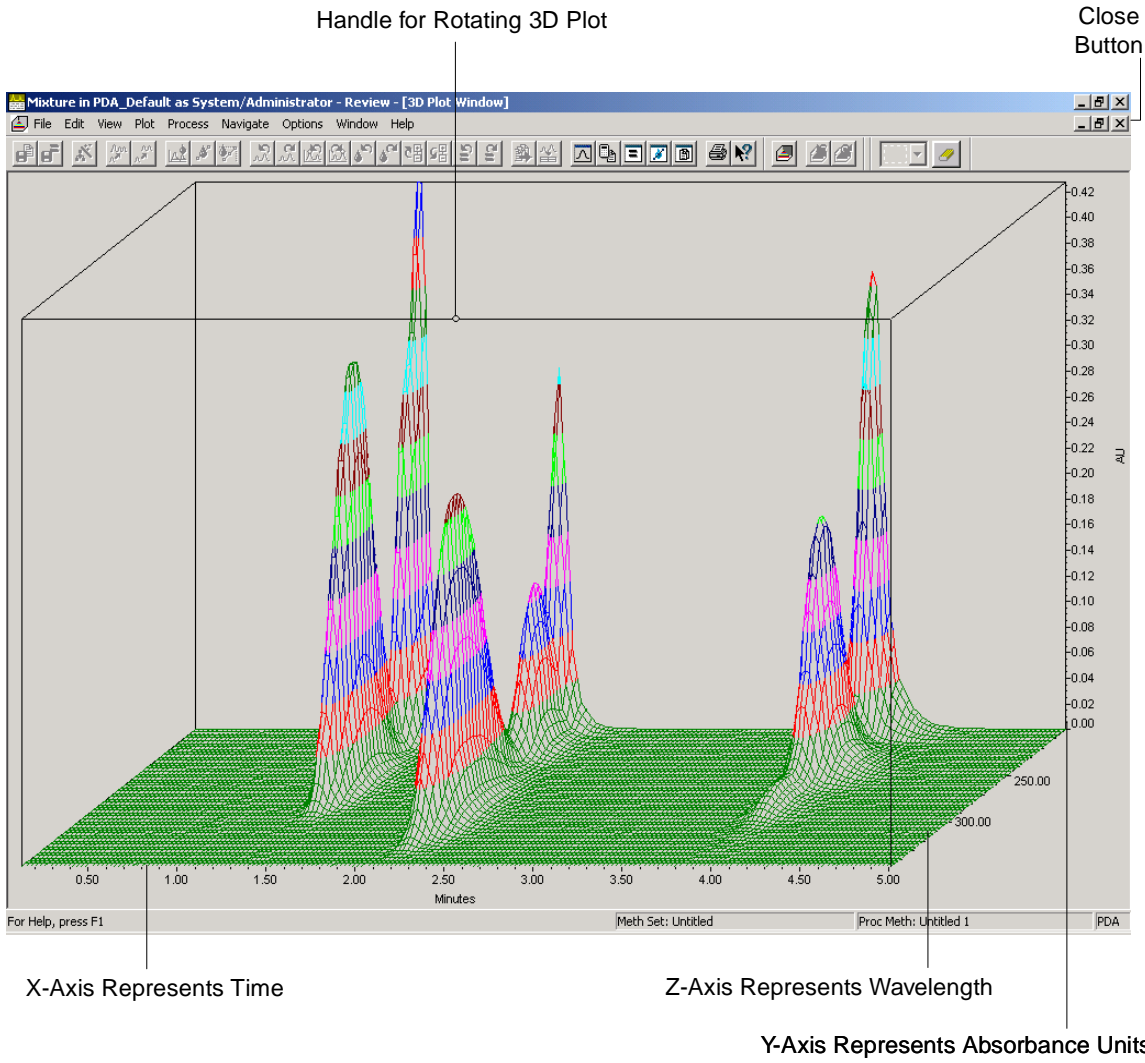

Figure 2-7 Sample 3D Plot Window
3. You can rotate the handle on the 3D plot (Figure 2-7) to view it from one of the following perspectives: